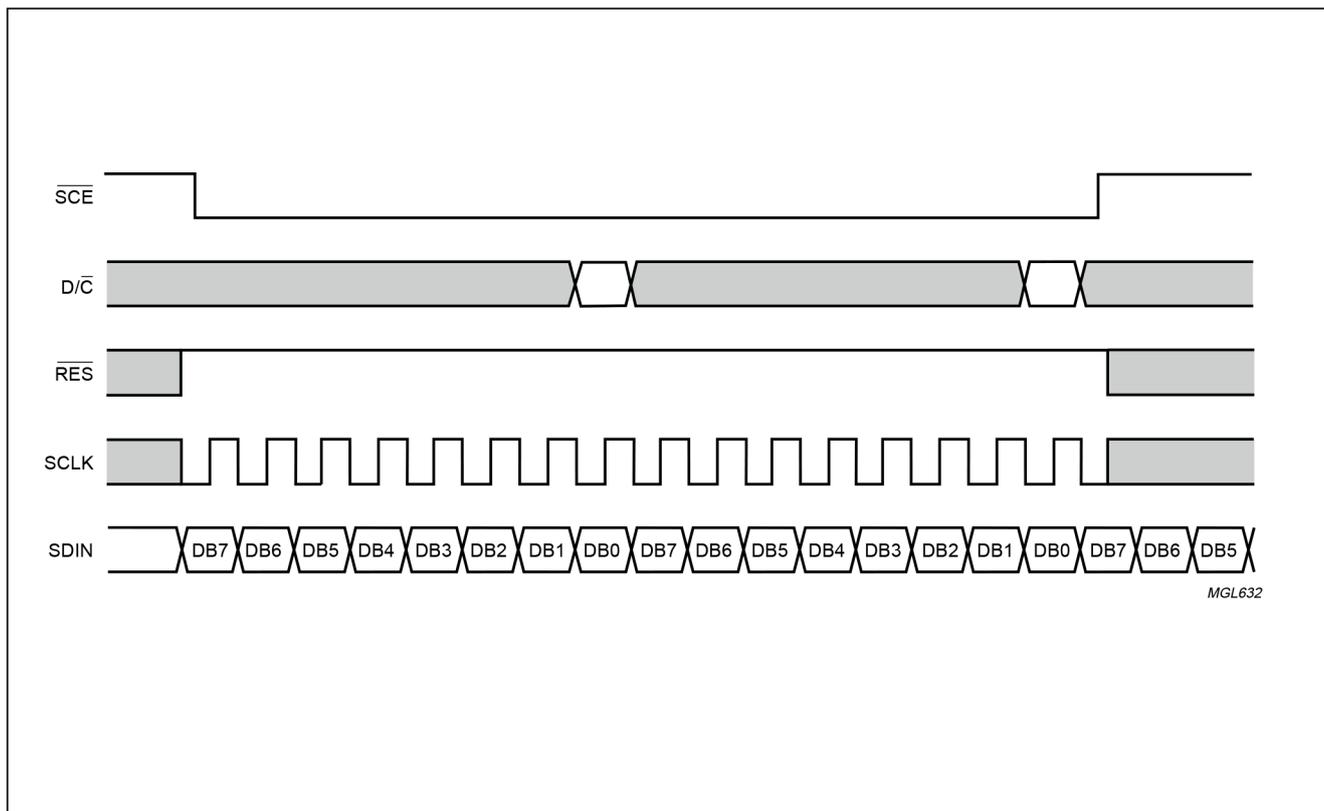

Figure 12 Serial bus reset function (\overline{SCE}).
- When \overline{SCE} is HIGH, SCLK clock signals are ignored; during the HIGH time of \overline{SCE} , the serial interface is initialized (see Fig.12)
- If \overline{SCE} stays LOW after the last bit of a command/data byte, the serial interface expects bit 7 of the next byte at the next positive edge of SCLK (see Fig.12)